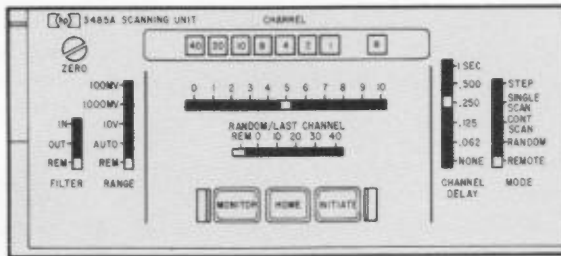

FIGURE 5
- The Scanner is allowed to trigger itself after a preprogrammed CHANNEL DELAY setup on the front panel. All other remote control lines are used. Refer to Figure 5 for front panel switch settings.